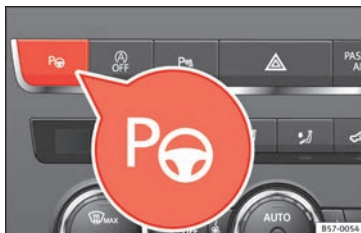

Fig. 202 At the top of the centre console: button to switch on the Park Assist system.
and rear bumpers, the **Fig. 202** button to switch the system on and off and the messages on the instrument panel display.
- Button **Fig. 202** is pressed.
To restart the manoeuvre it is necessary that none of these things occur and that button **Fig. 202** is pressed again.
tem does not correspond to the desired mode, you can select another mode by pressing button **P_{PA}** » **Fig. 202**.